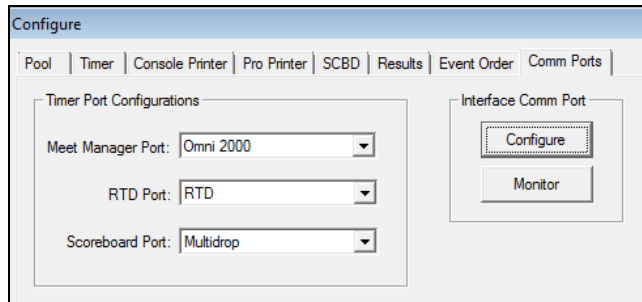

Figure 3: Comm Ports Tab
4. Go to **Options > Configure** and click on the *Comm Ports* tab (*Figure 3*).